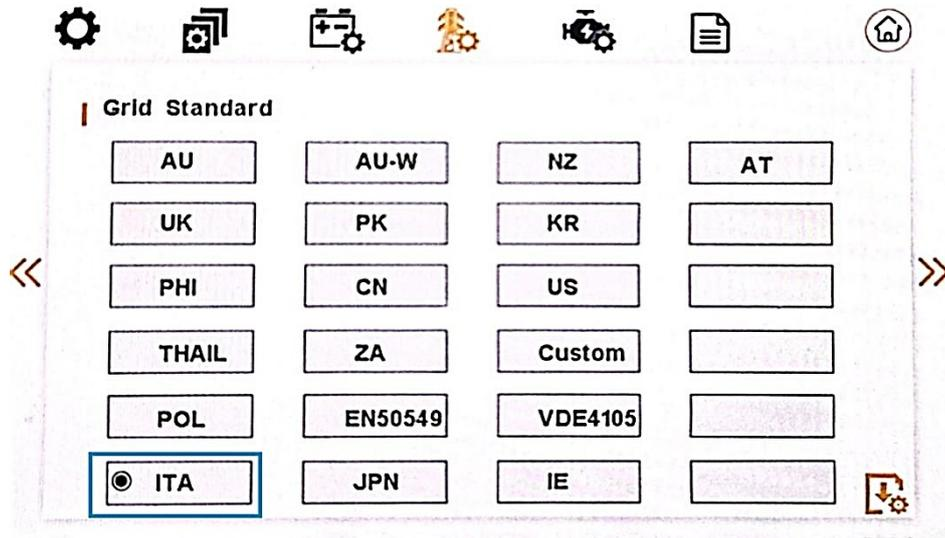

Figure 10-1
1.As shown in Figure 10-1, the power grid standard is ITA. Ensure that the power grid is connected and the inverter is error-free, otherwise do not test.